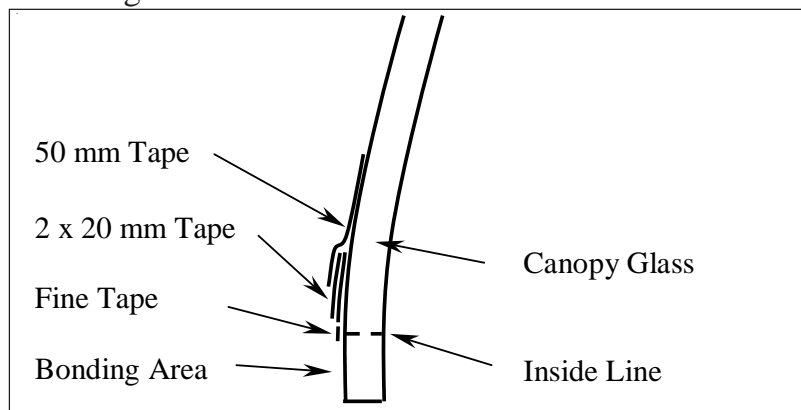

Figure 11 Canopy tape markings
- 10 For protection purposes, place 3 layers of tape as depicted in Figure 11.